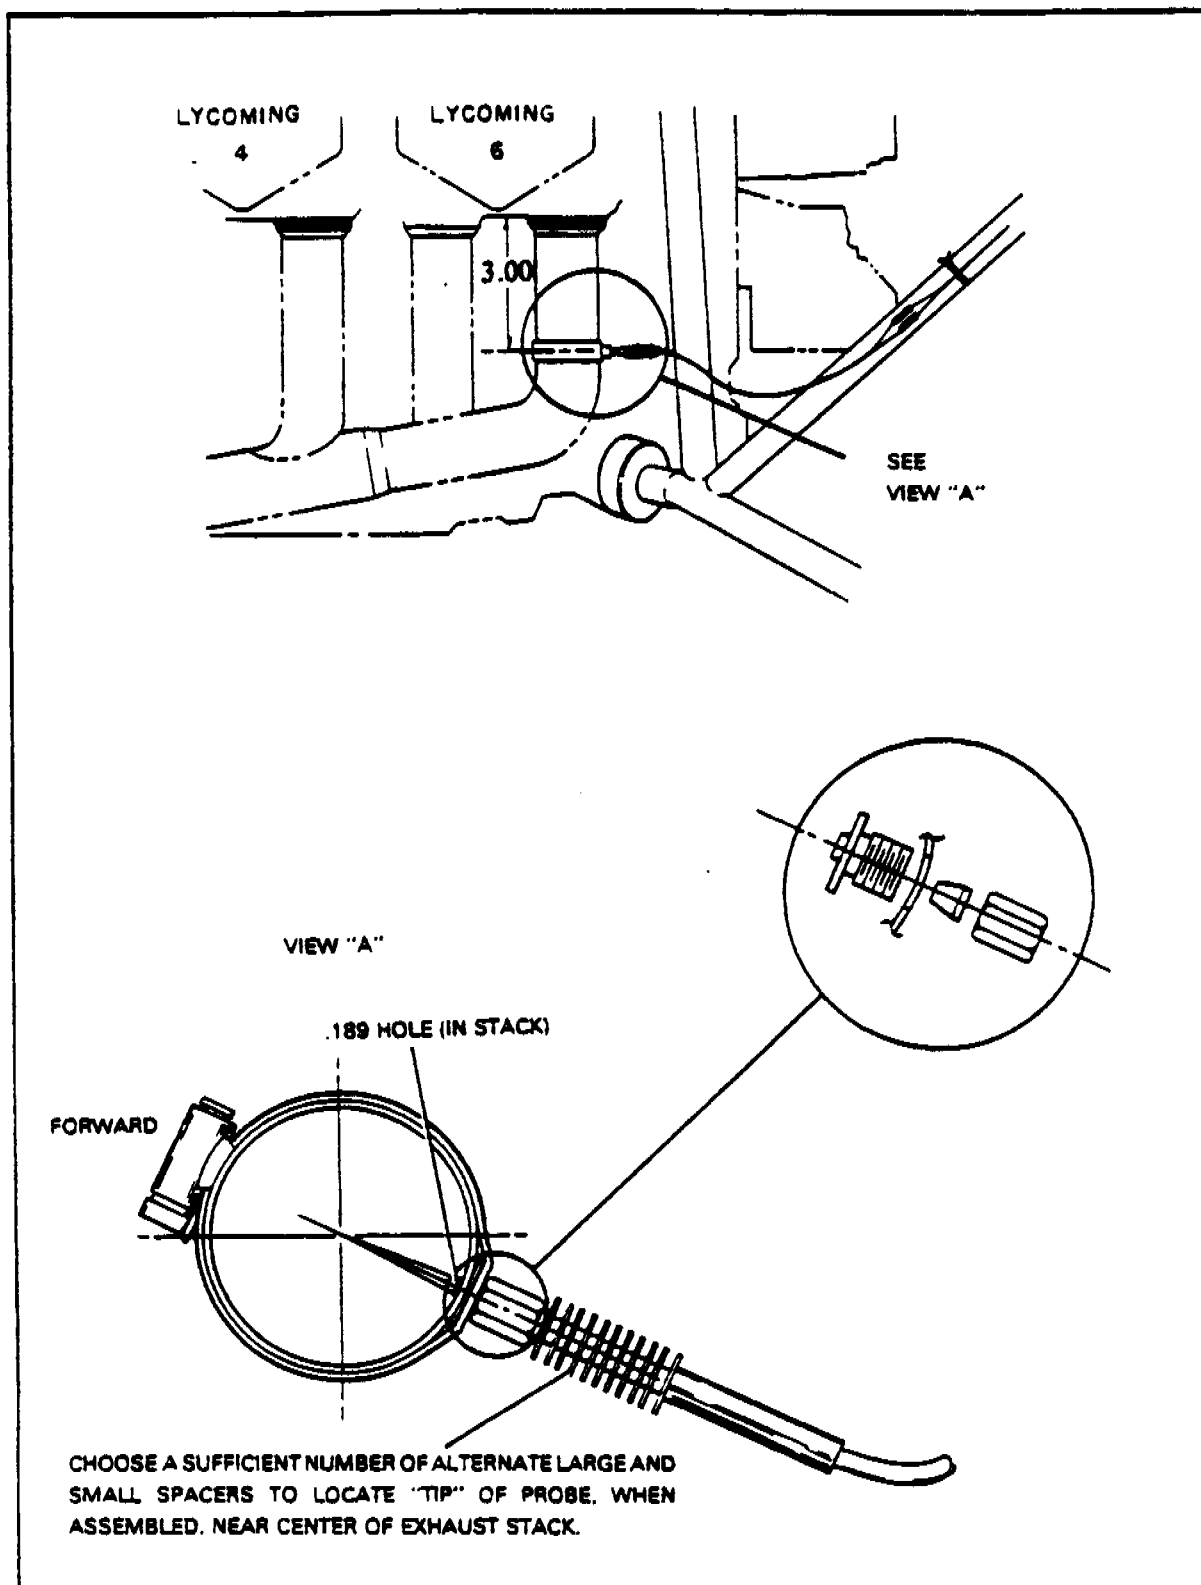

FIGURE 7C-5a. INDICATOR PROBE INSTALLATION
- b. Measure to a point on the exhaust stack 3 inches from the engine exhaust port (Refer to Fig. 7C-5A).
- c. Drill a .189 inch hole located as shown in figure 7C-5A.
- d. Install indicator probe as indicated in figure 7C-5A.